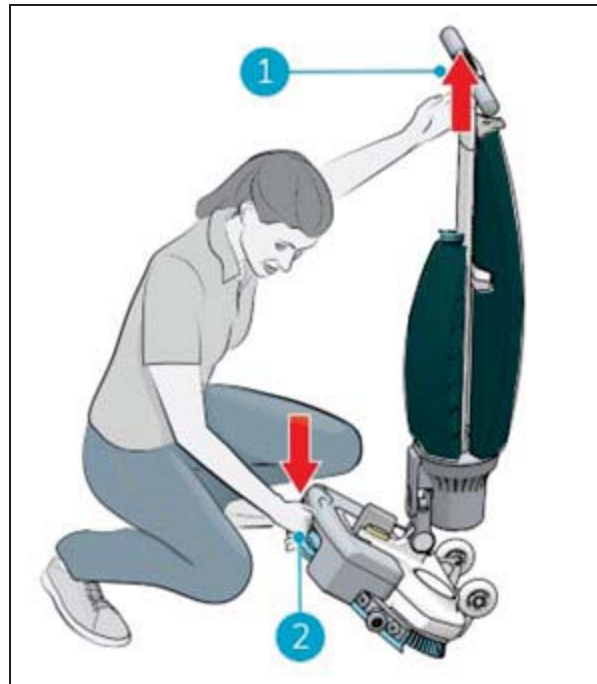

Figure 16
2. Crouch down while holding the scrub deck firmly with one hand (Figure 16, pos 2).
3. Push the handle forward with your other hand (Figure 16, pos 1).